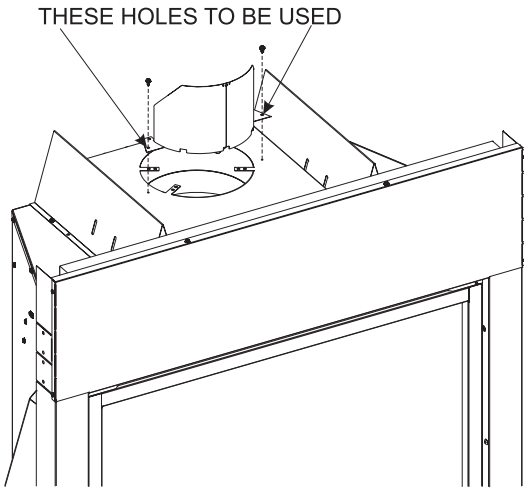

Figure 39
2. Attach to insulation box as shown in Figure 39.